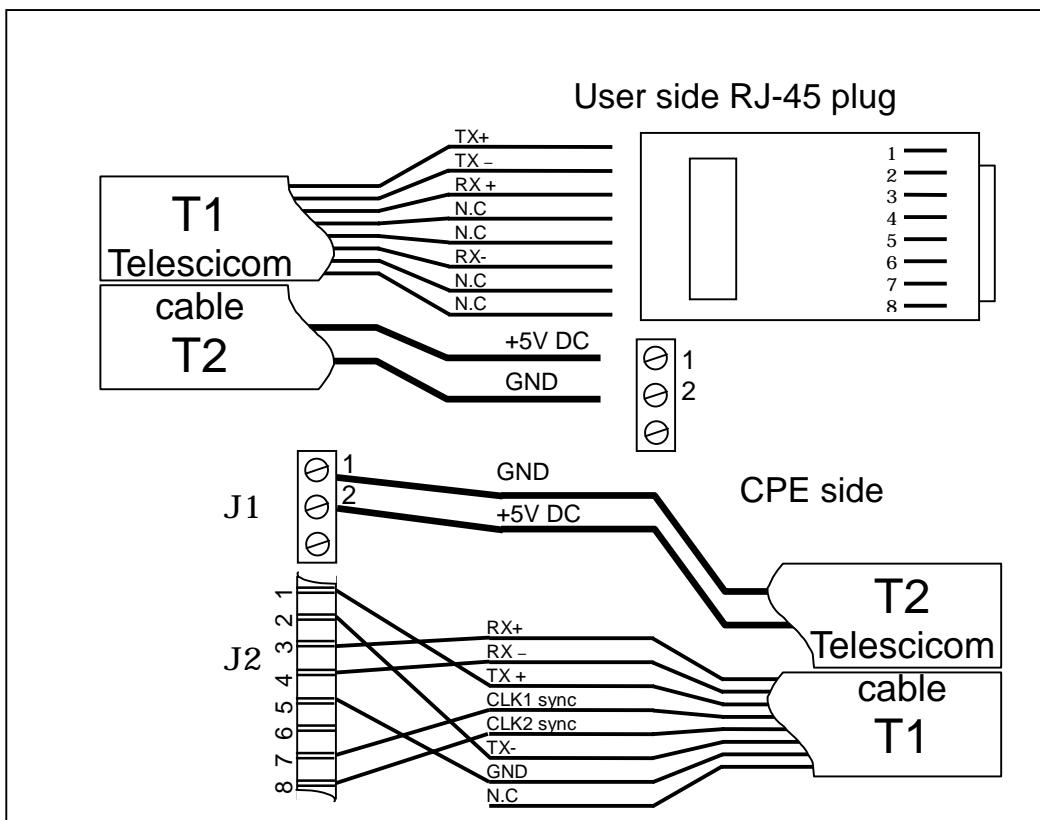

Figure 5 CPE connection wire diagram.
The CPE has one cable connection between the indoor unit and the outdoor unit. The cable consists of one pair of DC power supply cable and 4 twisted pair cables for data transmission. Figure5, page14 shows the end to end plug connectivity of this cable. Table1, page15 shows the pin connections for the CPE Outdoor Unit end of the cable. The Indoor connection should be set according to Table2, page15 and Table3, page16.
1. Attach the CPE side of the cable T2 to J2 as shown in Figure5, page14.
2. Attach the connector to the User side RJ-45 plug, as shown in Figure5, page14.